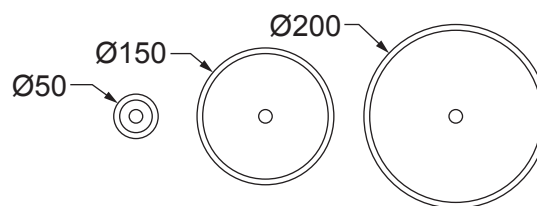

Fig. 11.2
- (ii) Fig. 11.2 shows three spur gears.